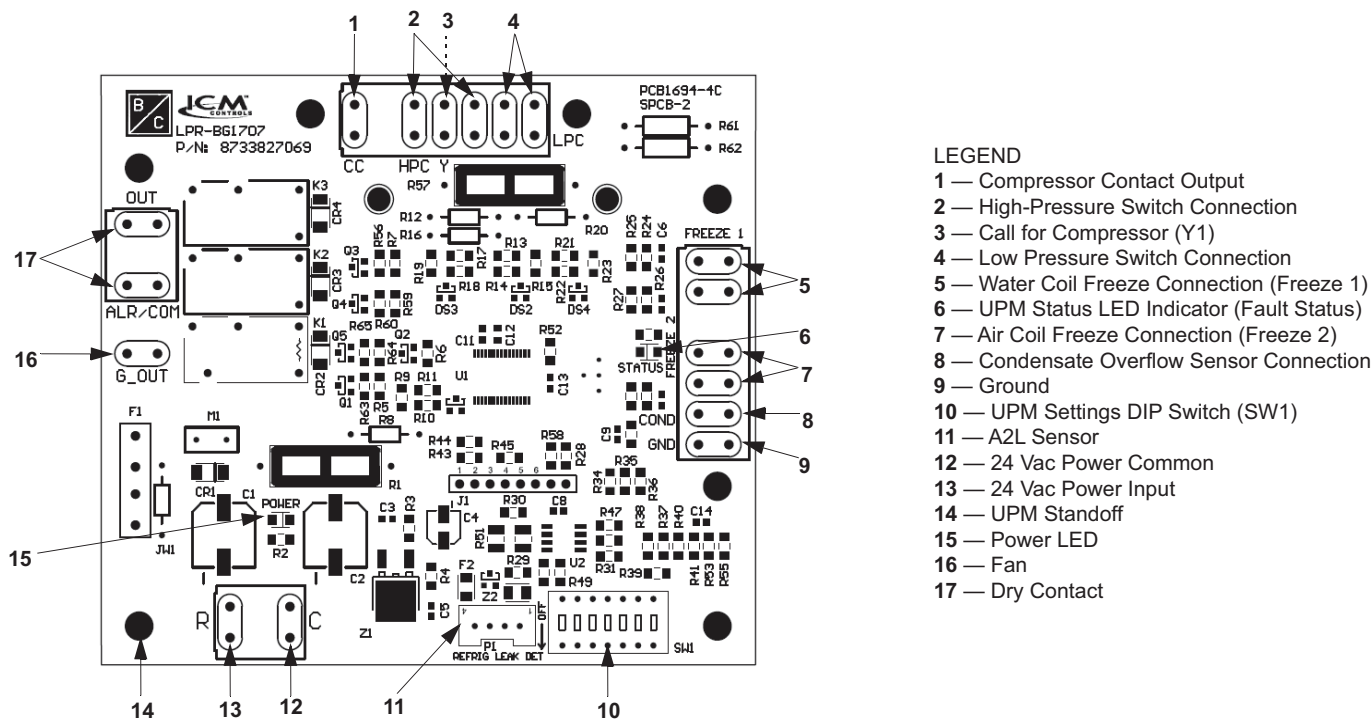
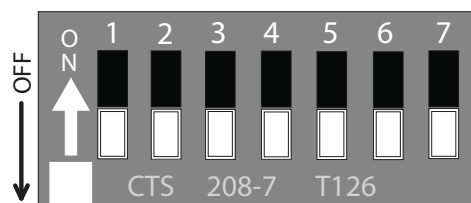
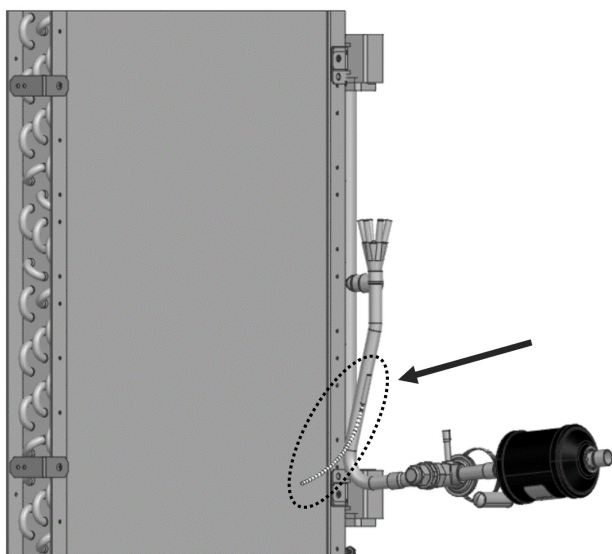

Fig. 21 — Unit Protection Module (UPM)
Fig. 22 — UPM Settings DIP Switch (SW1)
Fig. 24 — Air Coil Freeze Sensor Location (FREEZE 2) — Vertical Configuration Shown
The Unit Protection Module (UPM) as shown in Fig. 21 is a printed circuit board (PCB) included in all units, that interfaces with the thermostat or the digital direct controller.
If temperature drops below or remains at freeze limit trip for 120 seconds, the controller will shut down the compressor and enter into a soft-lockout condition. The default freeze limit trip is 25°F; however, this can be changed to 15°F by flipping DIP switch SW1 (see Fig. 21, Item 10, Fig. 22, and Table 18).
Air coil freeze protection sensor, mounted between the thermal expansion device and the evaporator, monitors refrigerant temperature between the evaporator coil and thermal expansion valve (see Fig. 24). If temperature drops below or remains at the freeze limit trip for 30 seconds, the controller will shut down the compressor and enter into a soft-lockout condition. The default freeze limit trip is 25°F, this can be changed to 15°F by flipping DIP switch SW1 (see Fig. 21, Item 10, Fig. 22, and Table 18.)
The condensate overflow protection sensor is located in the drain pan of the unit and connected to the “COND” terminal on the UPM board (see Fig. 21, item 8).
If a fault condition is initiated, the five minute delay on break time period is initiated and the unit will restart after these delays expire. During this period the fault LED will indicate the cause of the fault. If the fault condition still exists or occurs two or four times (depending on “2” or “4” settings for Lockout DIP Switch) before 60 minutes, the unit will go into a hard lockout and requires a manual lockout reset. See Fig. 22.